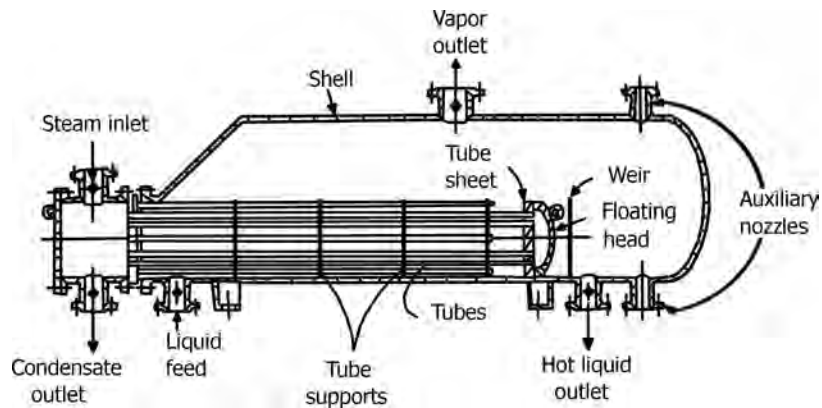

FIGURE 11.9 Kettle reboiler.
- By using a vertical partition baffle plate acting as a weir between the tube bundle and the liquid outlet, its height being more than the bundle diameter as illustrated in Figure 11.9.